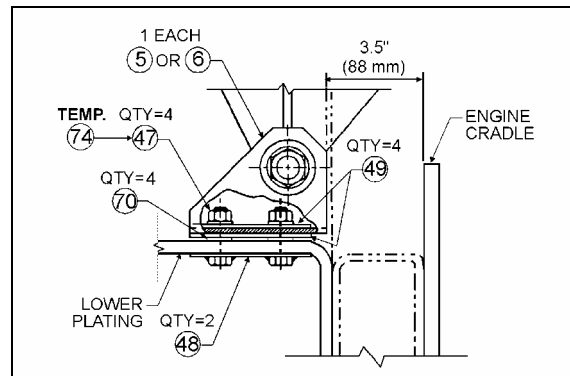

FIGURE 16: ANGLE SUPPORT 05014
1. Install both attachment assembly plates (P/N 051779) (48, Fig. 16) through lower plating and secure with four spring nuts (P/N 500666), (70, Fig. 16). Then install one spacer (P/N 050705), (49, Fig. 16) on each spring nut at both anchoring locations (Fig. 16).
2. Center seat assembly in the fan shroud using the horizontal displacement of the fan driving mechanism support. Center with the slots in the floor at anchoring angle support (on some vehicles only). Vertical displacement of the fan clutch is made possible by slots at the base of the fan clutch (on some vehicles only) or by shimming with additional spacers at anchoring locations. Temporarily secure assembly with two nuts (P/N 500709), (74, Fig. 16) at both anchoring locations.
- Check alignments again (steps 3, 4 & 5) then replace temporary anchoring nuts (P/N 500709) (74, Fig. 16) with four nuts (P/N 500714) (47, Fig. 16) and wrench tighten.